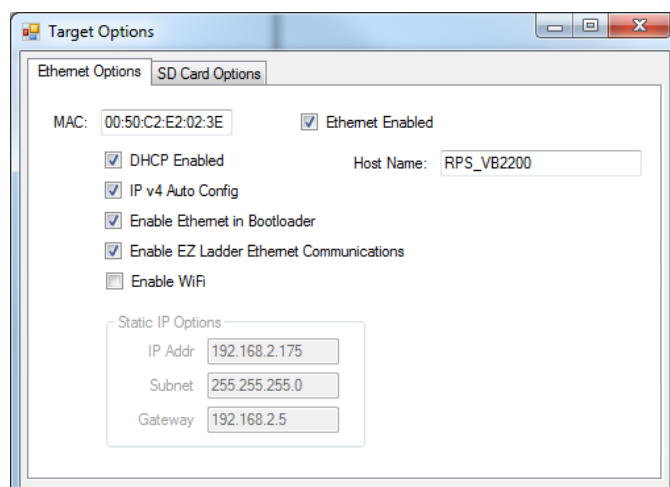

Figure 2-22 - Ethernet /Wi-Fi Options
8. Click the **TARGET OPTIONS** button. The Target Options window will open. There will be two tabs in this window. Click the **ETHERNET OPTIONS** tab. See Figure 2-22.